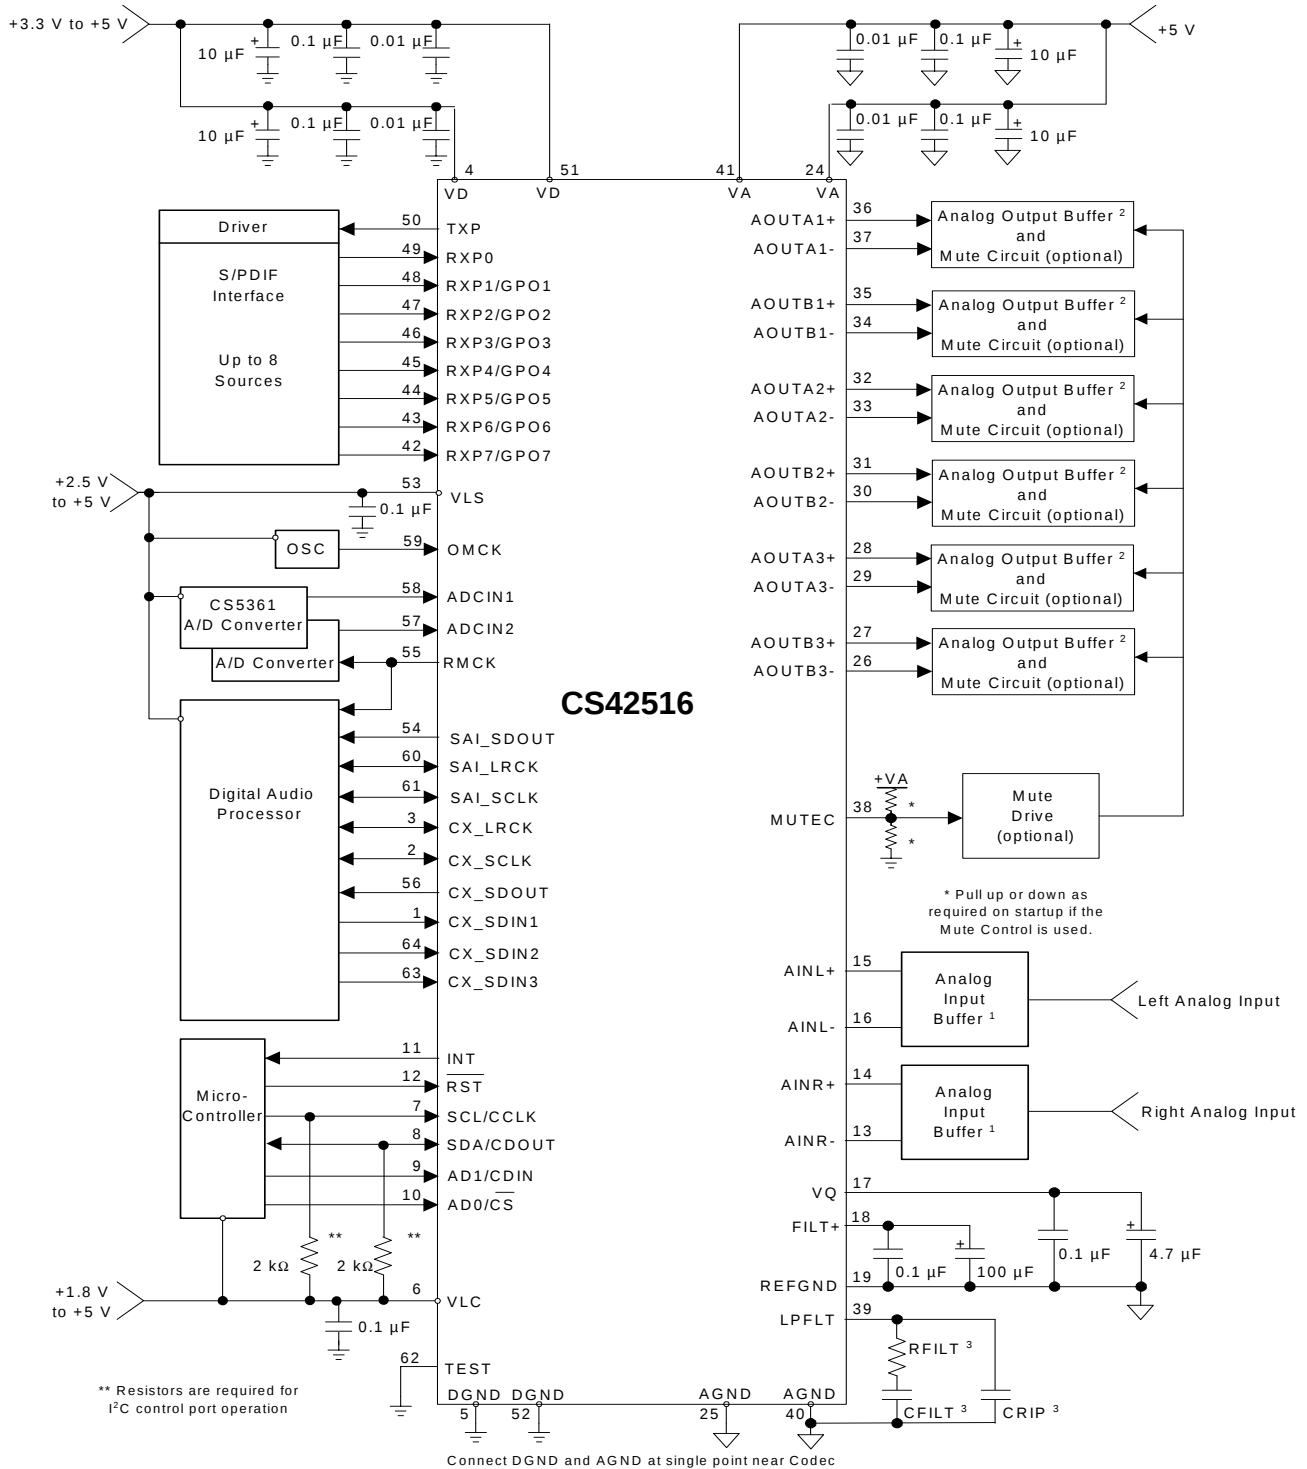

Figure 5. Typical Connection Diagram
26. Valid with the recommended capacitor values on FILT+ and V_Q as shown in Figure 5.
The CS42516 is a highly integrated mixed-signal 24-bit audio codec comprised of 2 analog-to-digital converters (ADC), implemented using multi-bit delta-sigma techniques, 6 digital-to-analog converters (DAC) and a 192 kHz digital audio S/PDIF receiver. Other functions integrated within the codec include independent digital volume controls for each DAC, digital de-emphasis filters for DAC and S/PDIF, digital gain control for ADC channels, ADC high-pass filters, an on-chip voltage reference, and an 8:2 mux for S/PDIF sources. All serial data is transmitted through two configurable serial audio interfaces with standard serial interface support as well as enhanced one-line modes of operation, allowing up to 6 channels of serial audio data on one data line. All functions are configured through a serial control port operable in SPI mode or in I²C mode. Figure 5 shows the recommended connections for the CS42516.